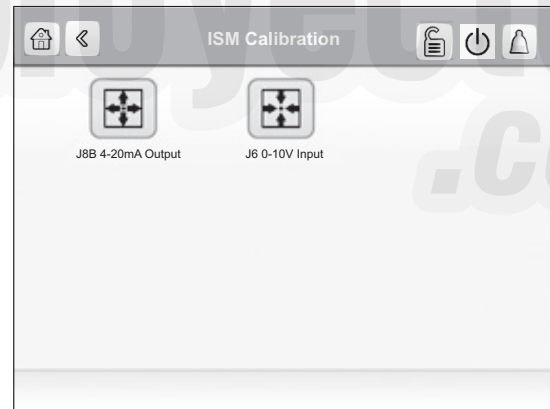

Fig. 40 — ISM Calibration Screen
1. Go to Main Menu → Maintenance Menu → ISM Calibration. See Fig. 40.